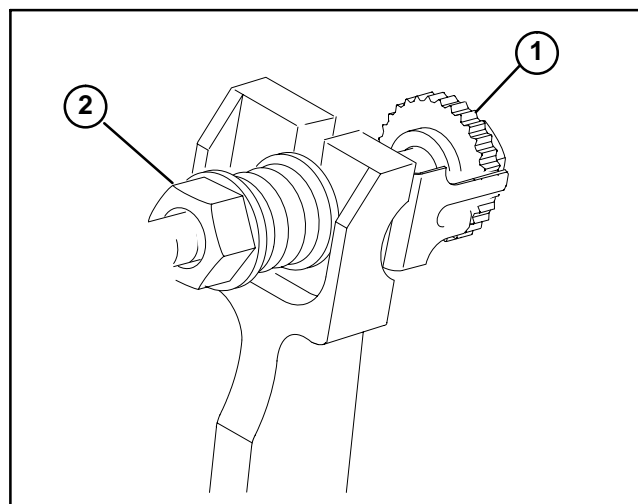

Figure 26
2. Loosen locknut on bedknife adjuster assembly and disengaging adjuster from bedbar (Fig. 26).